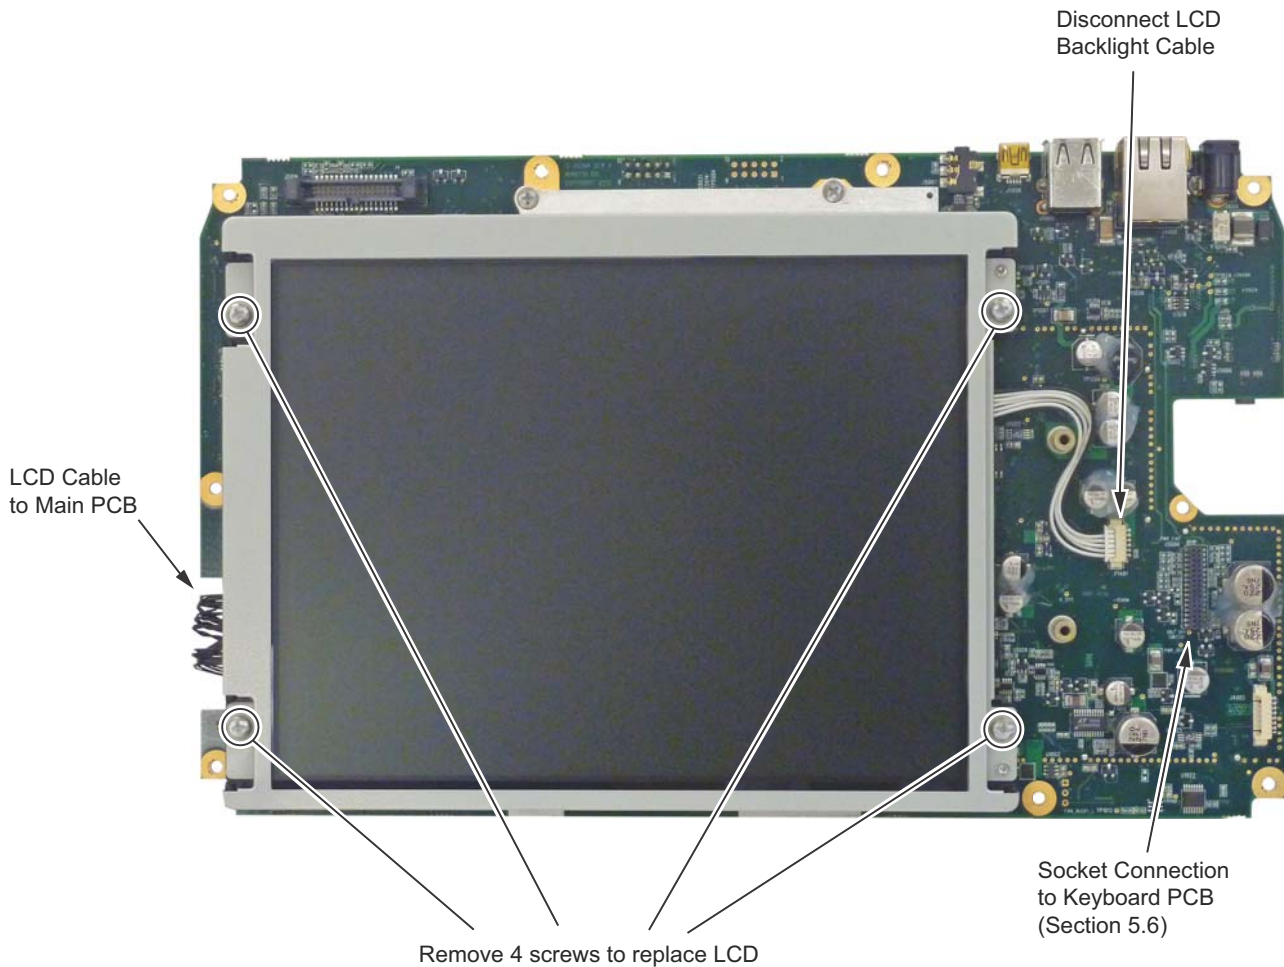

Figure 5-8. Replacing the LCD
4. Remove the four screws securing the LCD Display to the Main PCB assembly (Figure 5-8).
6. Remove the Main Keypad PCB, taking care not to damage the speaker wires. The Keyboard PCB is attached to the Main PCB Assembly with the socket connector shown in Figure 5-8 on page 5-8.